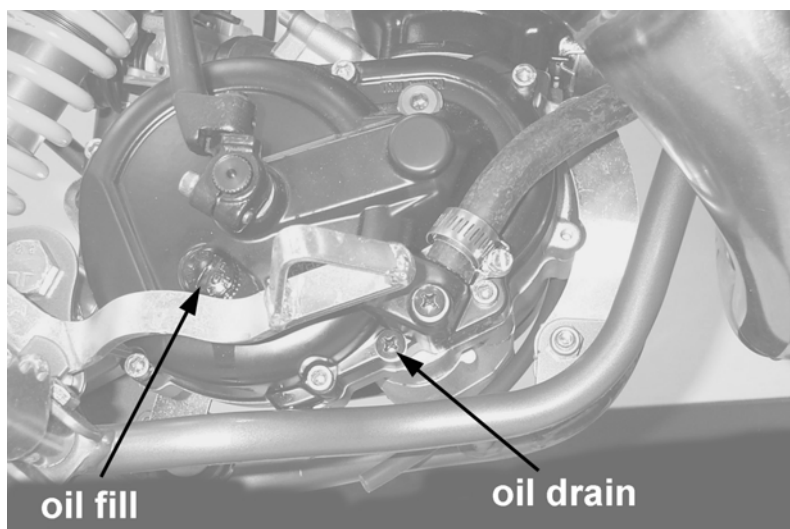

Figure 1
3. Using Phillips screwdriver, remove the oil drain bolt located on the right side of the engine (figure 1).